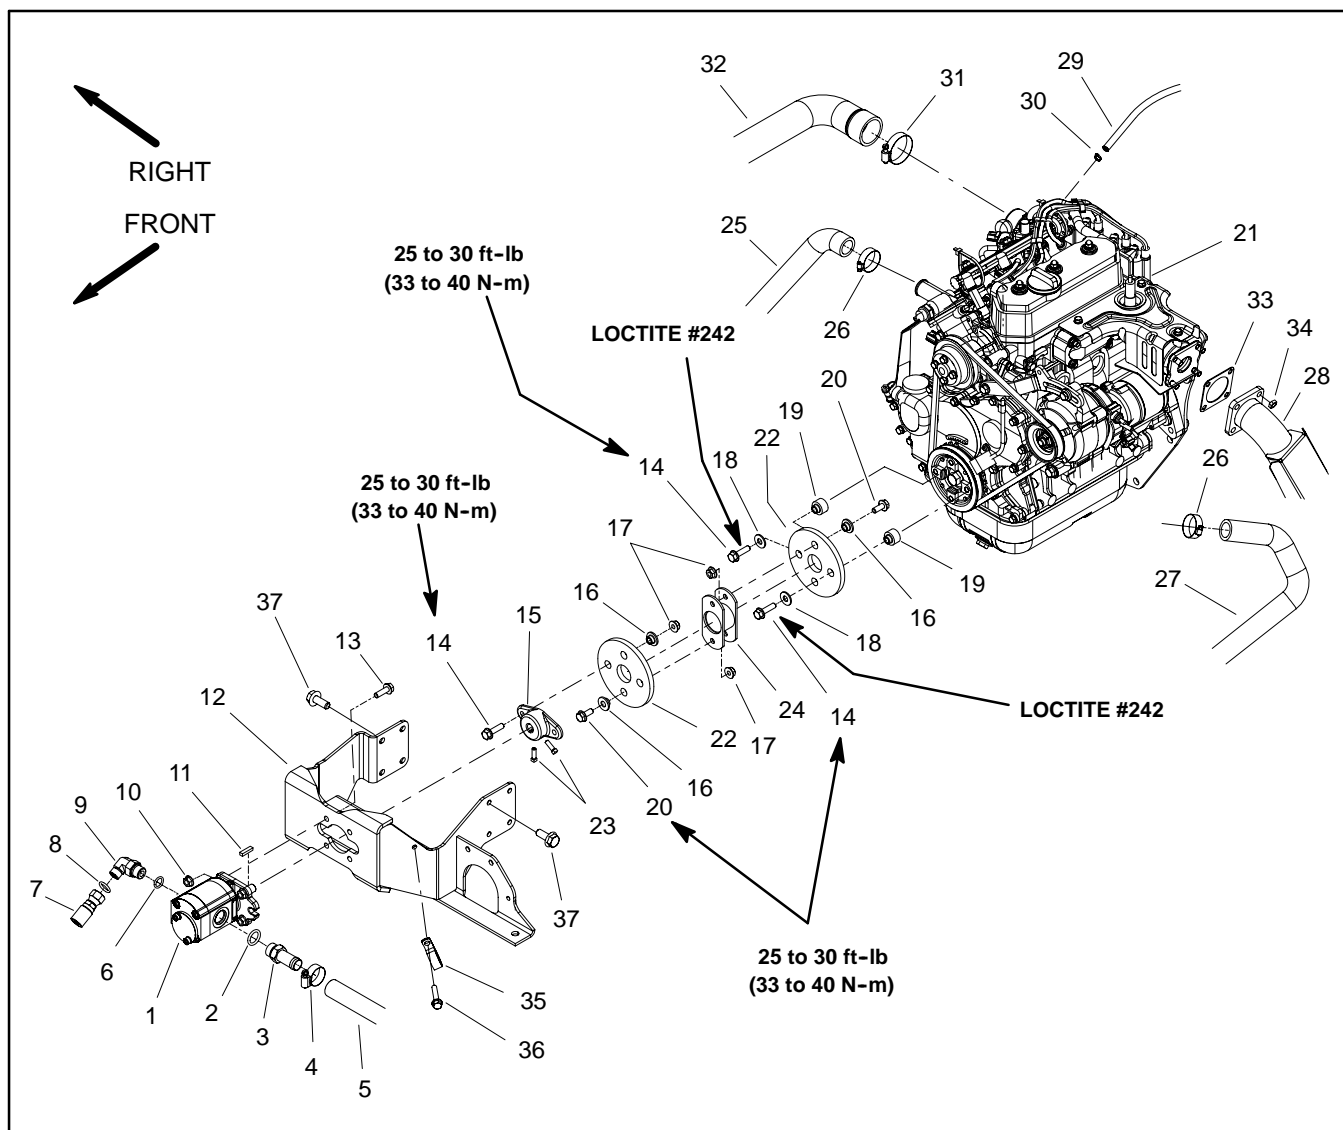
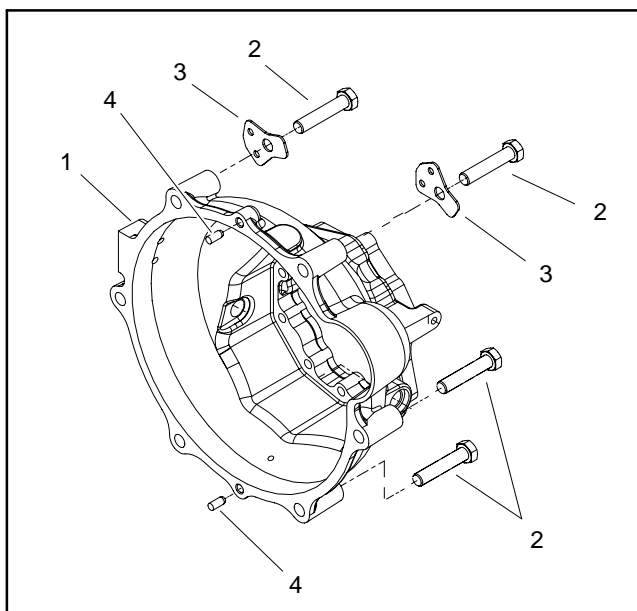

Figure 15
Figure 18
Engine Removal (Fig. 15)
16. Remove six (6) cap screws that secure clutch bell housing to engine. Note location of two (2) harness brackets as caps screws are being removed (Fig. 18).
18. Note location and retrieve two (2) dowel pins from bell housing (Fig. 18).
21. If necessary, remove coupler components from engine pulley using Figure 15 as a guide.
Engine Installation (Fig. 15)
2. If coupler assembly was removed, assemble coupler to engine flywheel using Figure 15 as a guide. Apply Loctite #242 (or equivalent) to threads of flange head screws (item 14) that secure rubber coupler to engine pulley. Torque fasteners to values identified in Figure 15.
3. If engine mount was removed, secure mount to engine with seven (7) flange head screws. Do not install the screw used to secure the ground connections to the engine at this time.
5. Install two (2) dowel pins in bell housing bores (Fig. 18).
8. Secure bell housing to engine with six (6) cap screws and two (2) harness brackets (Fig. 18).